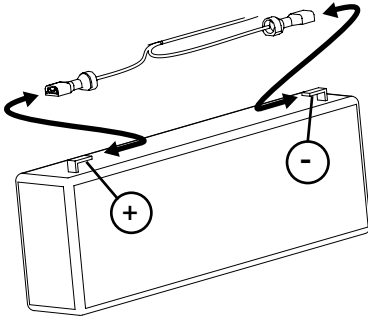

Figure 15
5. Connect the red positive lead to the red positive (+) terminal. Connect the black negative lead to the black negative (-) terminal (Figure 15).